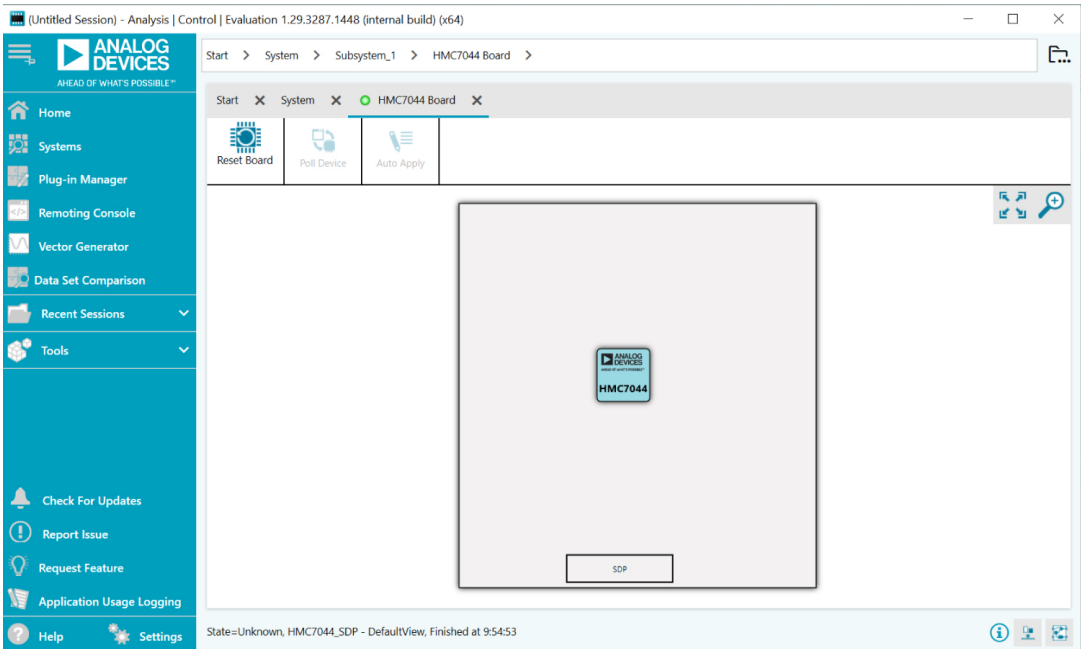

Figure 4. ACE Board Page, Device Selection
- 2. Double click the **HMC7044 Board** icon and the tab shown in Figure 4 appears.